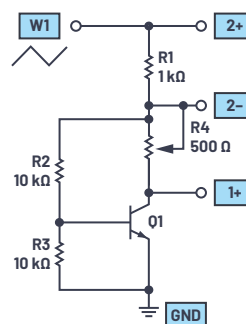

Figure 9. Version 2 of  $V_{BE}$  multiplier circuit.
- How would you modify the values of R2 and R4 in version 2 (Figure 9) to produce a stabilized 1.0 V output?